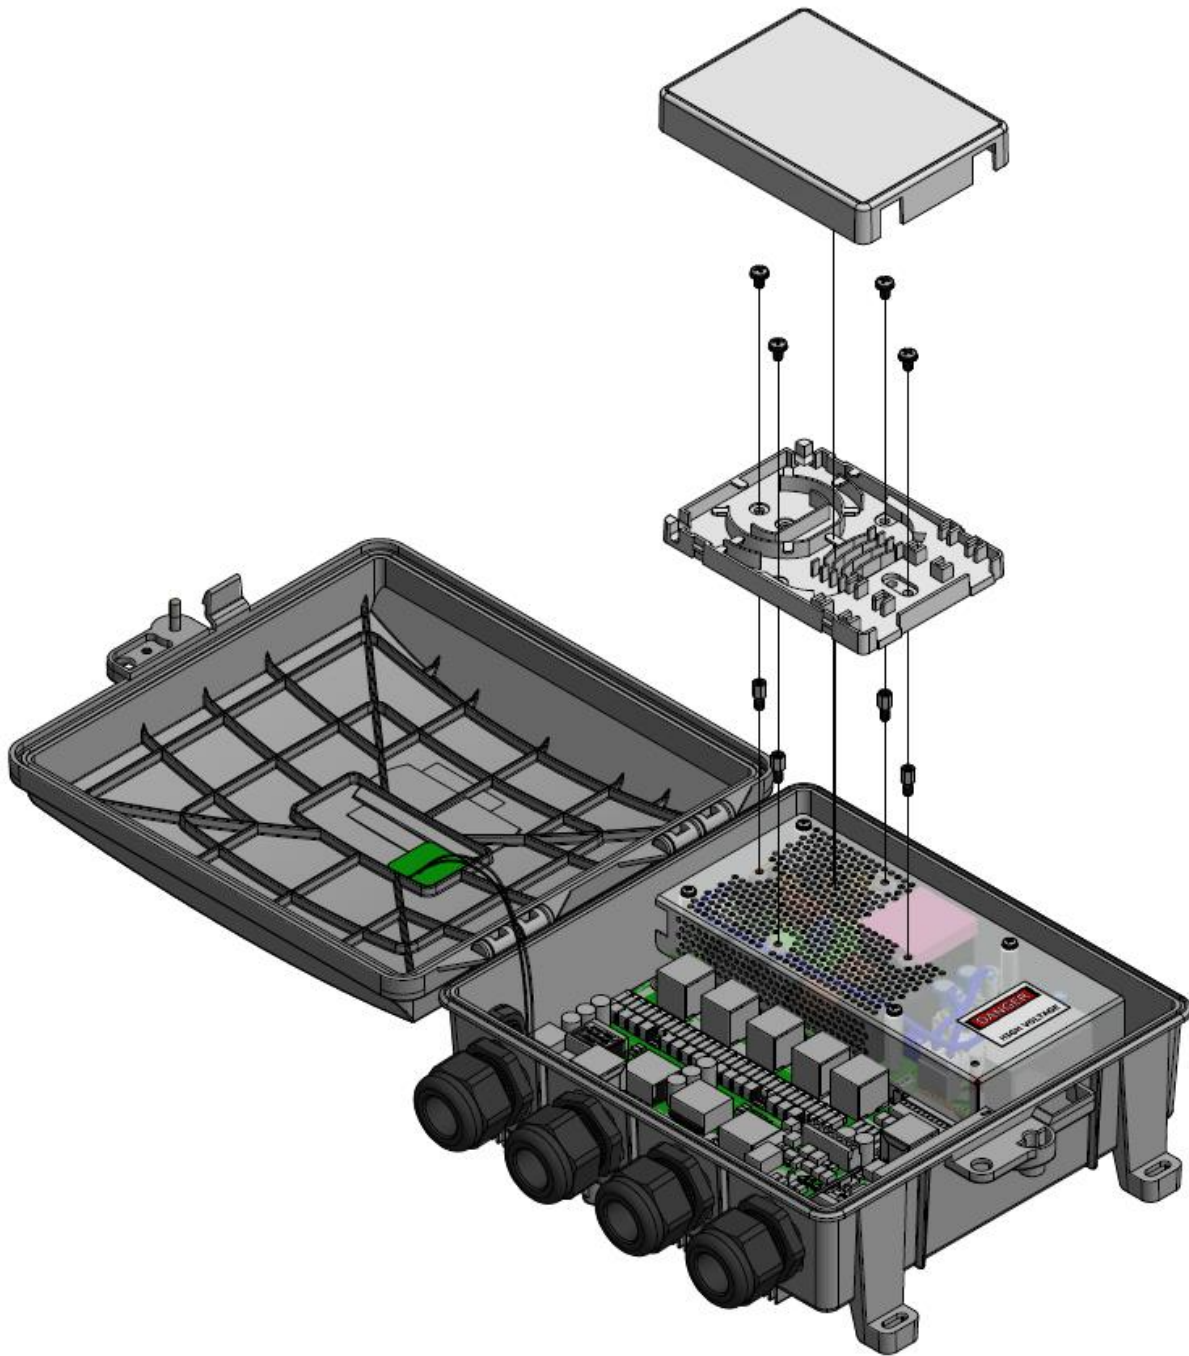

Fig. 3: FMK Mounting
12. Insert terminated end of fiber into slots (see Figure 3 below).